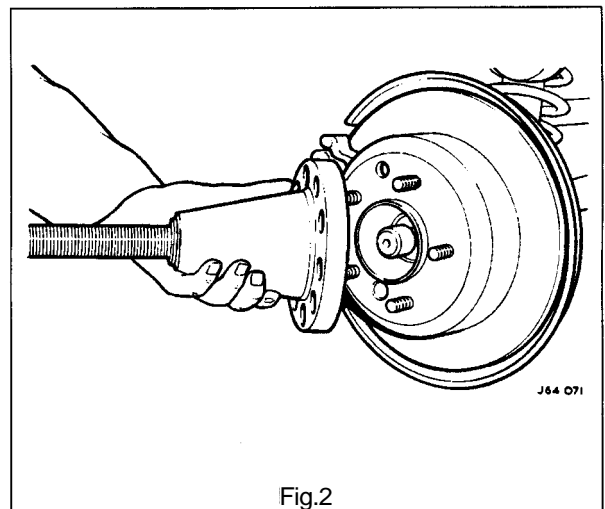

Fig.2
- With service tools JD 1D / 7 (Fig. 1) and JD 1 D (Fig. 2), push shaft through hub.